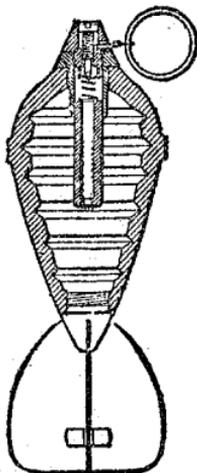

FIG. 149b.—Projectile of 69 millimeters (about 2.75 inches), type B, 1916.
B (fig. 149b) somewhat elongated. Charged projectile painted blue. Practice projectile painted red.
5. Projectile, type B, model 1916 (fig. 149b).—Shorter and lighter than type A, 1 pound, 6 ounces, 404.5 grains of which 3 ounces, 76.2 grains are of explosive. Greater range; similar effects. Safety is insured by the fact that the firing pin does not project far enough to reach the primer. But a wire is wound around the shank of the firing pin like a thread around the